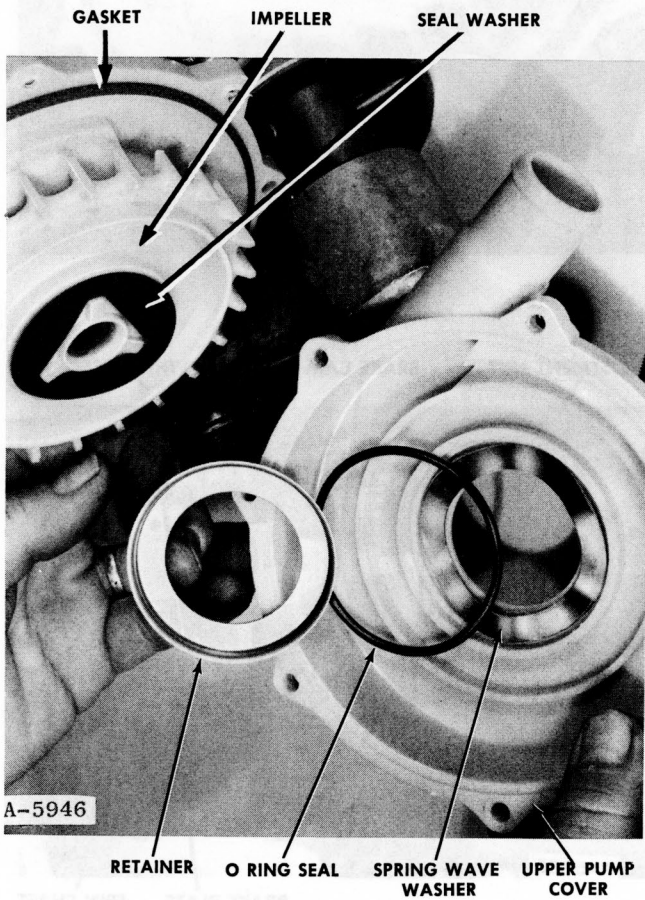

Figure 112
5. Remove the seven (7) screws from the upper pump housing and remove upper impeller housing. See Figure 112 for assembly detail.